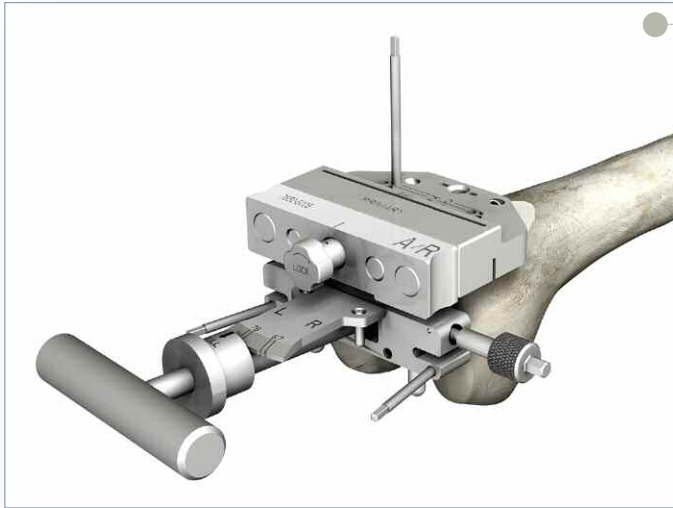

Figure 22
- ▶ Drive two 1/8" headless pins into the holes marked "0" (**Figure 22**). The Distal Resection Guide comes in 8mm or 10mm Resection configurations and allows 8mm or 10mm of bone to be removed from the distal femur. Pinning through the "X" pin hole will aid in further securing the guide.